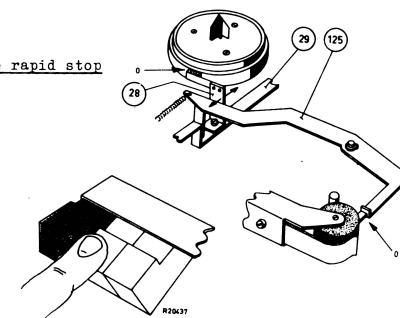
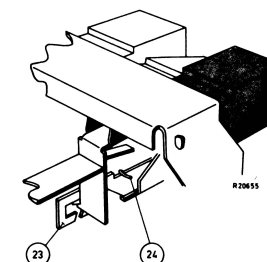

Fig 39
Fig 40
- When the rapid stop key is depressed, lever 125 should come against the pressure roller lever and at the same time brake 28 against the left hand reel disc of brake 28, see fig. 39). This can be adjusted by moving brake 28 with respect to the rapid stop bracket 29. If the rapid stop key is fully depressed, then the locking bracket 23 should stop the key, see fig. 40)